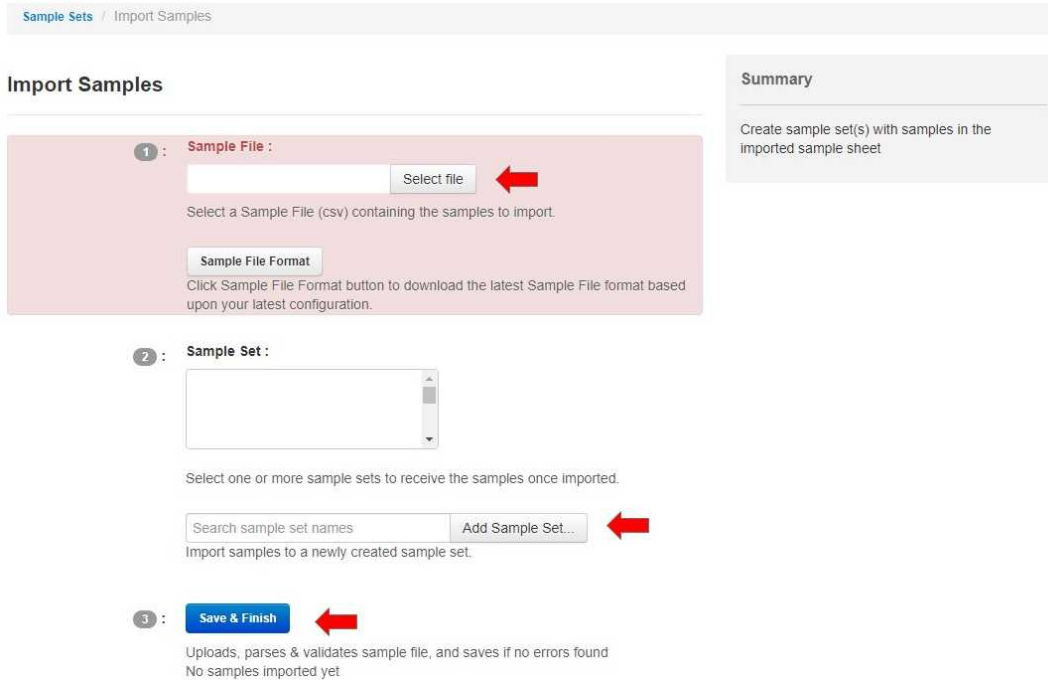

Figure 6. Screenshot for adding a new sample set name
9. **Using the “Select File” button, browse** for the sample list, as shown in figure 6.
10. **Select** the “Add Sample Set.,” as shown in figure 6.
11. **Enter** the “Sample Set Name,” as shown in figure 6.